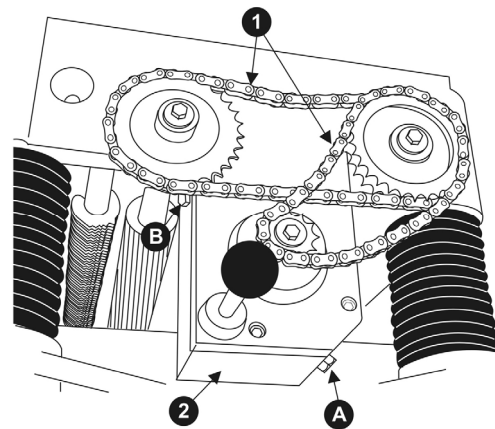

Figure 33
1. Remove the drain plug (A, Figure 33) with a 14mm wrench, and remove filler plug (B-Figure 33). Drain dirty oil thoroughly.
2. Tighten the drain plug (A, Figure 33).
3. Fill with clean lubricant through hole (B, Figure 33).
4. Reinstall and tighten filler plug (B, Figure 33).